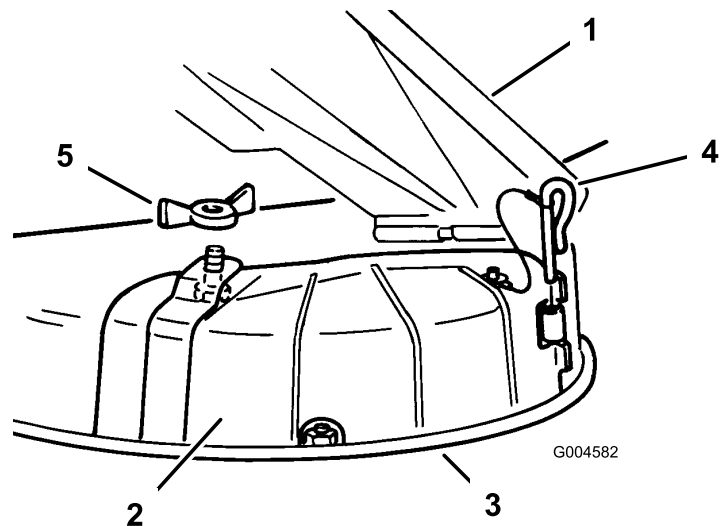

Figure 17
3. Lift the grass deflector and place the discharge cover over the opening onto the lower lip of the mower and slide it into the front hinge (Figure 17).
4. Slide the hinge pin through the hinge (Figure 17).
5. Secure the discharge cover to the mower with the wing nut (Figure 17).